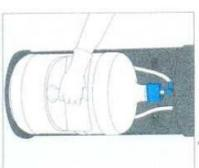
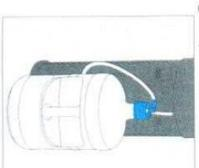

Figure 2-1
Figure 2-2
2. Slide empty bottle out of cabinet (fig.2-1 and fig.2-2)